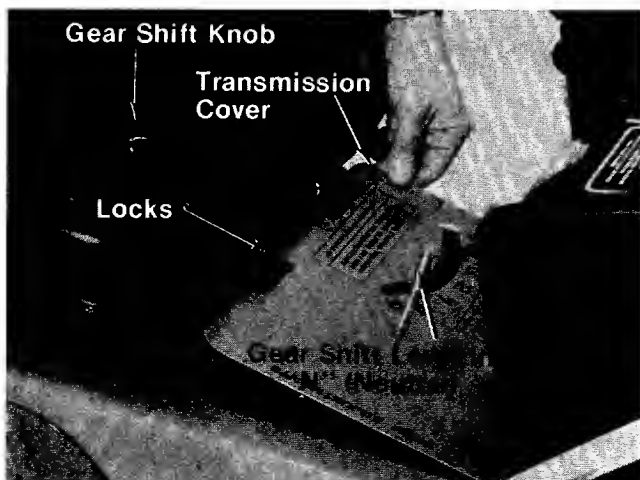

FIGURE 8.
1. Place the shift lever in the "N" (neutral) position. Unscrew the gear shift lever knob. See figure 8.
2. Push down and turn the locks on the transmission cover. See figure 8.